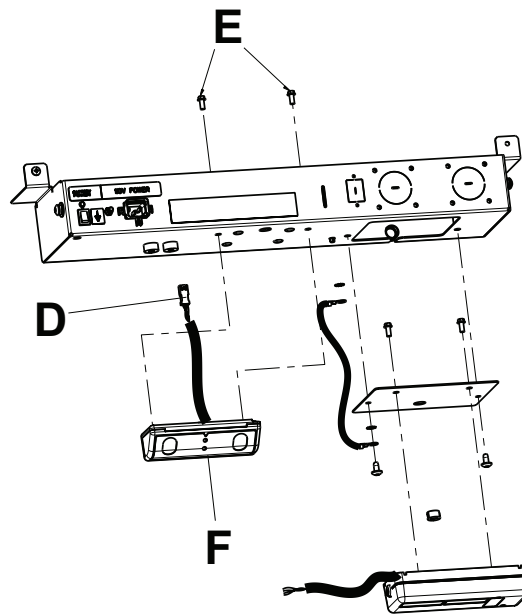

Figure 24 – Remove screws and IR module
9. Using a small slotted screwdriver, unclip the connector (D) going to the IR module (F) (Figure 24).
10. Using a 1/4" drive ratchet and 5/16" socket, remove the two screws (E) that secure the IR module to the litter frame (Figure 24).